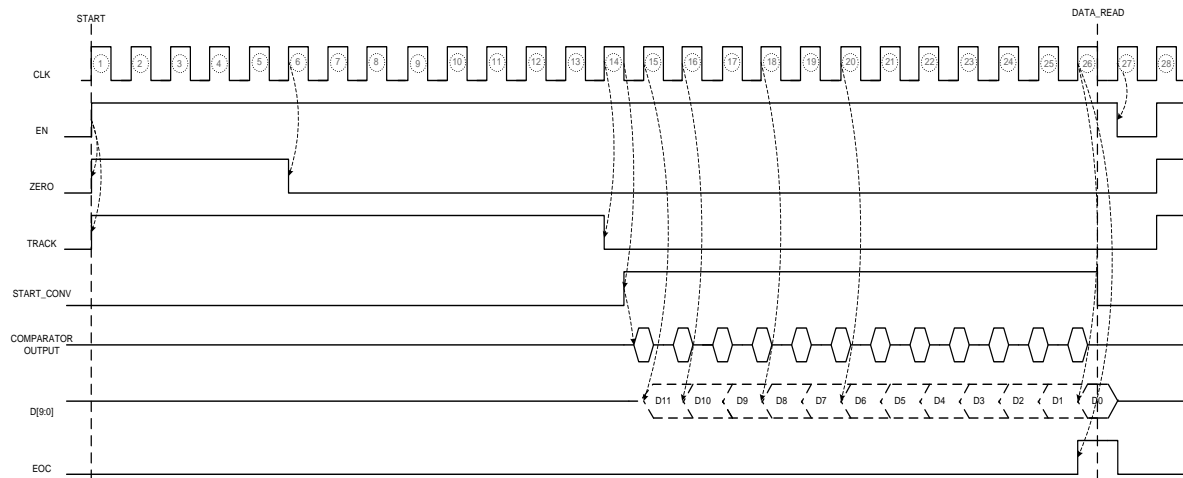

Figure 8: Track and Hold Sequence Timing Diagram
The implemented track-and-hold circuit ensures a stable voltage on the input of the SC ADC during the conversion. Figure 8 shows the polarity and the timing of the external and internal signals controlling the track and hold sequence of the converter. The clock ($f_{CLK} = 0.5$ MHz) and the enable signal (EN) are provided by the main PM control logic, while all the other signals are internally generated. The timing diagram illustrates a tracking period of 13 clock cycles, that is 26 μ s (inclusive of 10 μ s auto-zero time) and a conversion period of 24 μ s, hence a total ADC conversion cycle of 50 μ s.